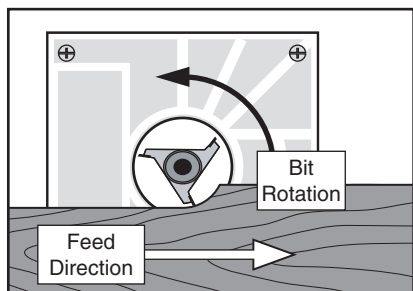

Figure 6. Correct feed direction and grain orientation (bottom view).
1. Examine the top face of the workpiece and determine the direction of the grain. Feed the router so the bit is cutting with the grain (cutting along the growth rings as shown in **Figure 6**). Cutting against the grain chips the wood rather than cutting it, making a rougher surface with more “chip out.”
2. Always pass the router across the workpiece so the bit is rotating opposite the feed direction as shown in **Figure 6**. If the cutters are moving in the same direction you are feeding the router, you are performing a “climb cut.” This is a very dangerous operation because the router could lunge forward out of your hands, causing serious personal injury.